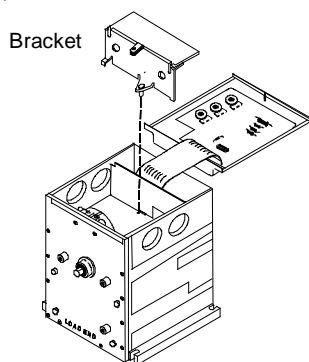

Figure 10: Installing Bracket
5. Place the bracket, supplied with the motor actuator, over the vertical board and fasten the bracket in place with captive screw. (See Figure 10.)